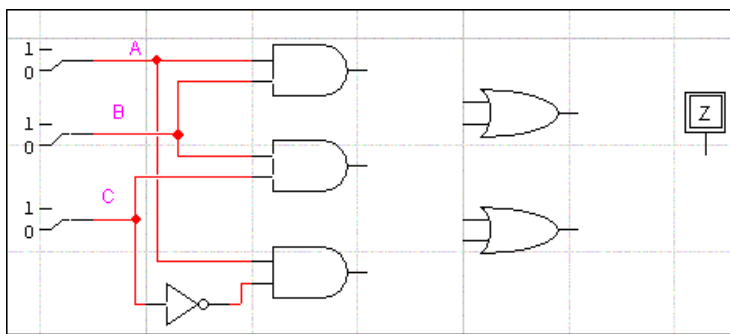

Fig. 9
- Connect the output of this inverter to one of the inputs of the last AND gate and connect the other AND gate input to switch A. Your design should now resemble the circuit window in Fig. 9.